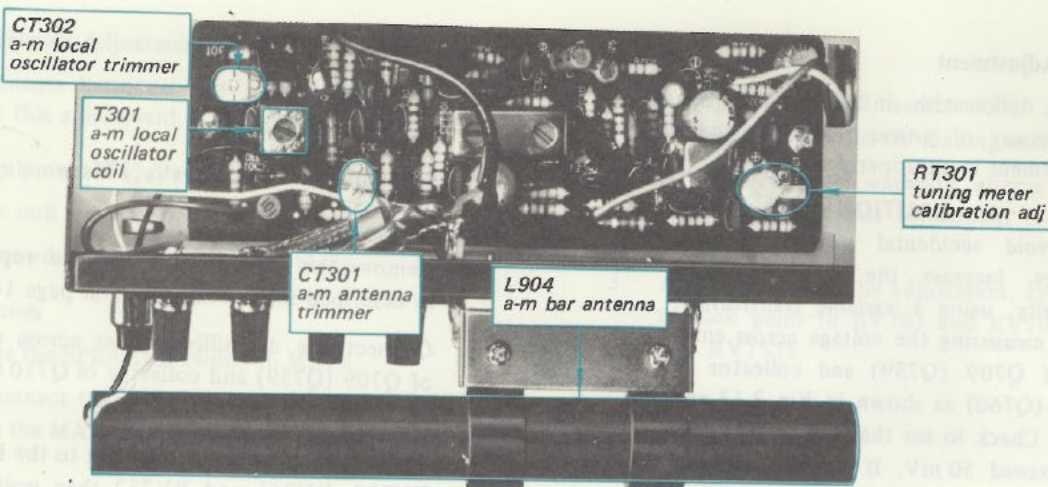
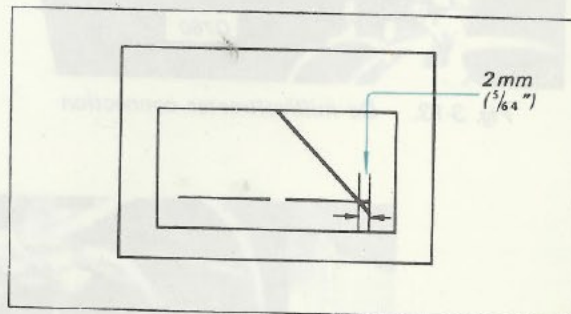

Fig. 3-10. Adjustment parts location
Fig. 3-12. Tuning meter calibration
1. Tune the receiver to the lowest-frequency station in your locality. Check the dial scale for a calibration accuracy of ± 20 kHz from the carrier frequency. If the dial calibration error exceeds this limit, adjust the local oscillator-coil T301 (see Fig. 3-10) slightly until optimum dial calibration is obtained.
2. Tune the receiver to the highest-frequency station in your locality. If the dial calibration error exceeds ± 30 kHz from the carrier frequency, adjust local-oscillator trimmer-capacitor CT302 (see Fig. 3-10) to obtain maximum calibration accuracy. Repeat the above steps two or three times.
2. Tune the receiver to the station whose carrier frequency is closest to 1,400 kHz and adjust antenna trimmer capacitor CT301 (see Fig. 3-10) to obtain maximum output.
3. Precisely tune the receiver to the signal and adjust RT301 (see Fig. 3-10) to obtain the meter pointer within 2 mm ($\frac{5}{64}$ ") left of its maximum indication as shown in Fig. 3-12.